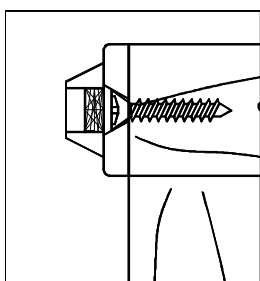

Figure 1
1. Release the door of the Cabinet (A) with pressing the locking pin at the back of hinges as shown (**Fig.1**), and pull the door as shown (**Fig.2**)
Use a 3/32" drill bit to drill pilot holes into the furniture item at the "screw marks". Use the TWO Short screws to secure the furniture-side mounting plate. This mounting plate can be positioned either vertically or horizontal as necessary (See Figure 1).